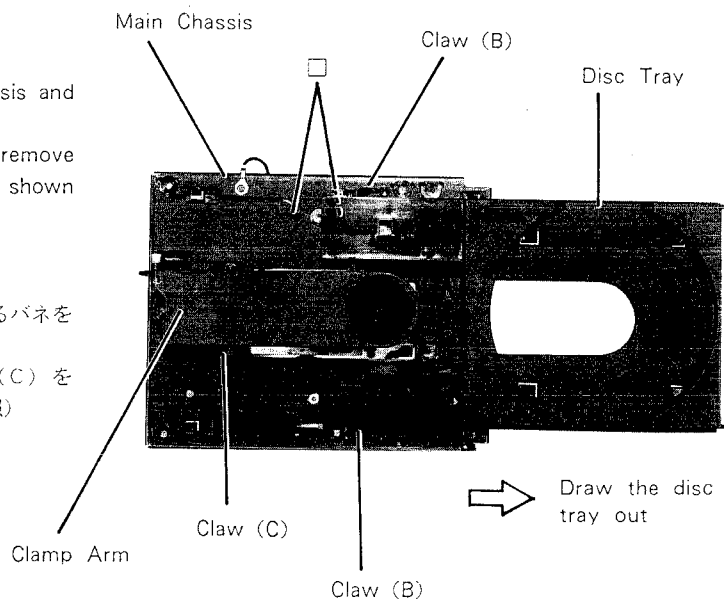

Figure 9
- (3) Spread two claws (B) toward outside at the both sides of the disc tray and draw out the disc tray as shown in Figure 9.
- (2) After pulling out the disc tray frontward, remove the clamp arm by pressing one claw (C) as shown in Figure 9.
- (1) Remove one belt and two screws marked "□" as shown in Figure 9.